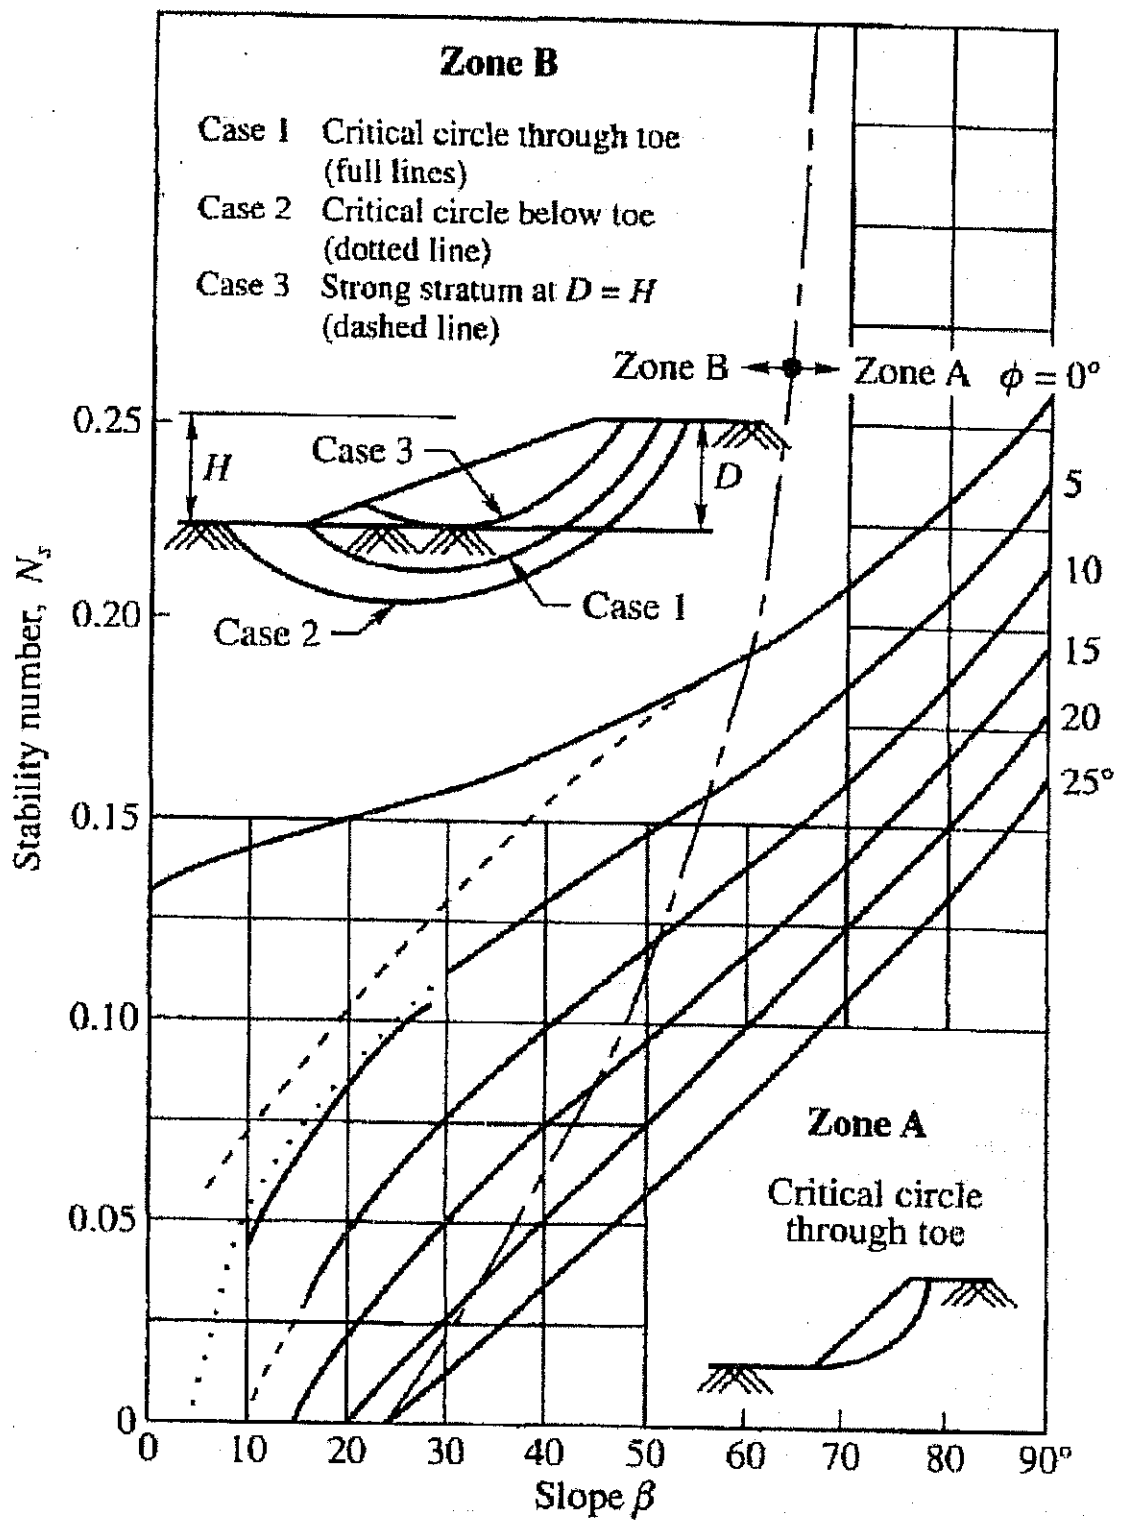

Figure Q7: Taylor's stability numbers for circles passing through the toe and below or above the toe (Taylor, 1937)
- Figure Q7 shows a chart that expresses Stability Number  $N_s = \frac{c'}{F_c \gamma H}$  for critical circular failure types.